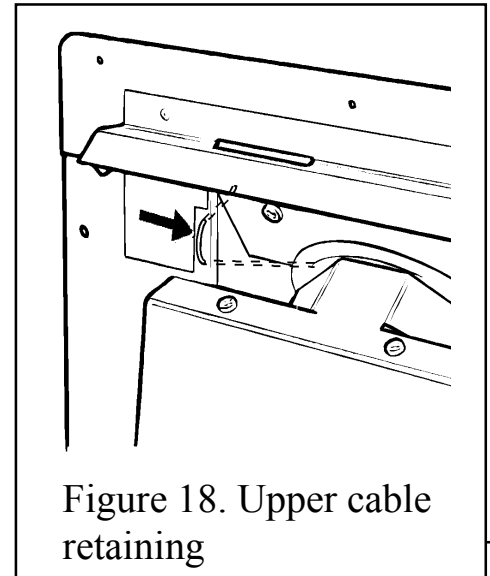

Figure 18. Upper cable retaining
4. The convection box has two holes at each side of the convected air opening. Insert one end of each cable (one cable each side) from the back through the lower of the two holes and return the end through the upper of the holes. See figure 18. Give the cables a pull so that they grip against the convection box flanges.